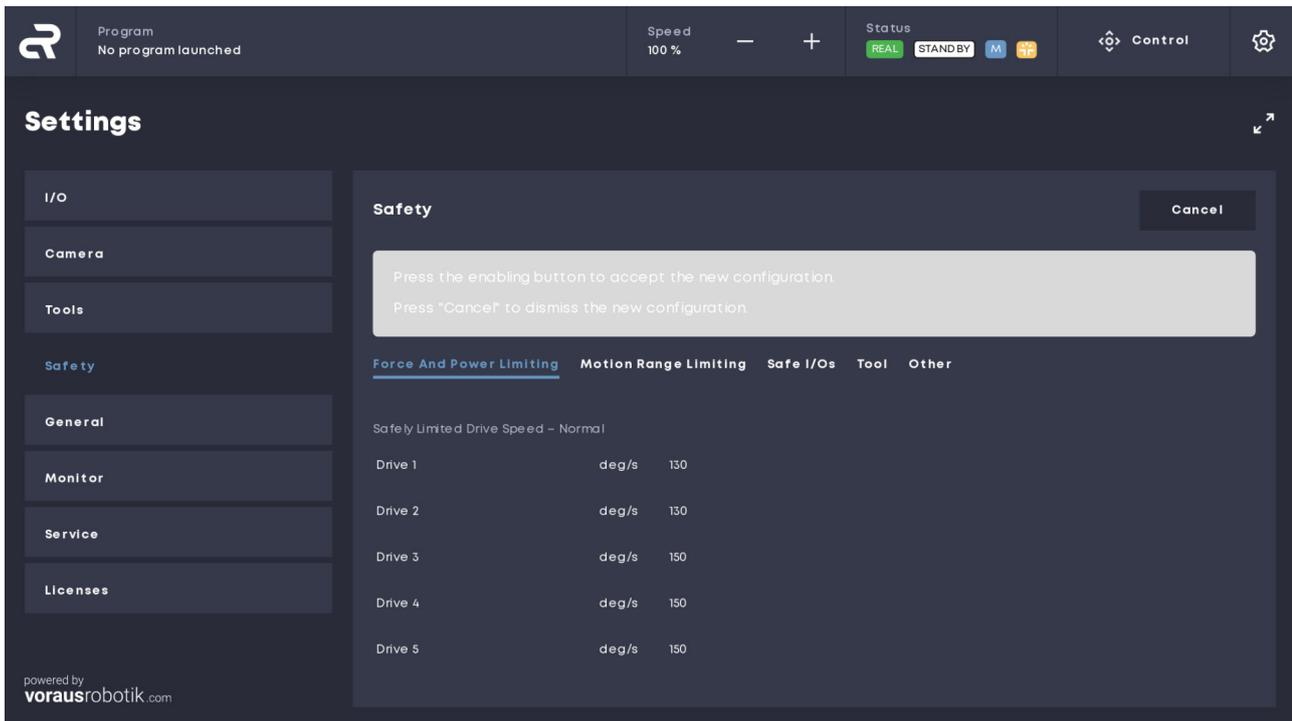

Fig. 16 Confirming a new safety configuration
07. Confirm the new safety configuration by pressing the enabling button in the middle position on the handheld controller Fig. 16.